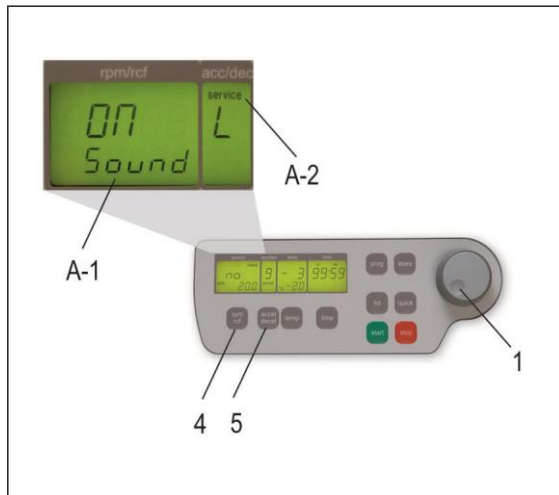

Figure 9
Proceed as illustrated under point 1.9.1 to enter this program mode, press the key "accel/decel" (5). In the display "accel/decel" (A-2) flashes the word "service". Select the letter "L" with the adjustable knob (1). As a result appearing in the display "rpm/rcf" (A-1) are the words "On Sound". By pressing the key "rpm/rcf" (4) the word "On" flashes and the sound can be switched off with the adjustable knob (1), (see Figure 9).